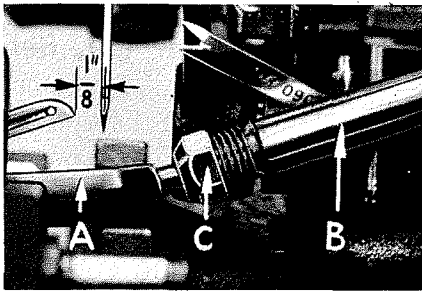
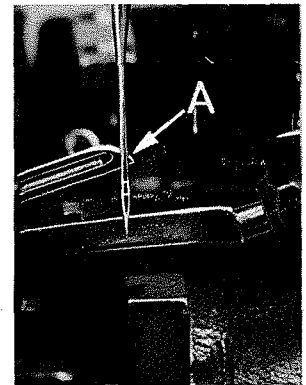

Fig. 5
Fig. 7
Insert the 503 stitch lower looper (A, Fig. 5) into bar (B). With lower looper at left end of its stroke set looper point $1/8$ inch from center of needle (Fig. 5) using looper gauge No. 21225- $1/8$. Do not have lower looper deflecting needle. Do not lock looper nut (C) because the looper point will have to be set to the needle scarf after the rear needle guard has been assembled and positioned. (See paragraph under "Final Setting of Lower Looper.")
Now finish lower looper adjustment. As lower looper moves to the right its point should be set into the needle scarf (A, Fig. 7) until the needle springs forward from the rear needle guard surface another $.002$ to $.004$ inch. This setting is obtained by rocking the looper forward or backward around its shank. Recheck the $1/8$ inch looper gauge setting and tighten nut (C, Fig. 5).